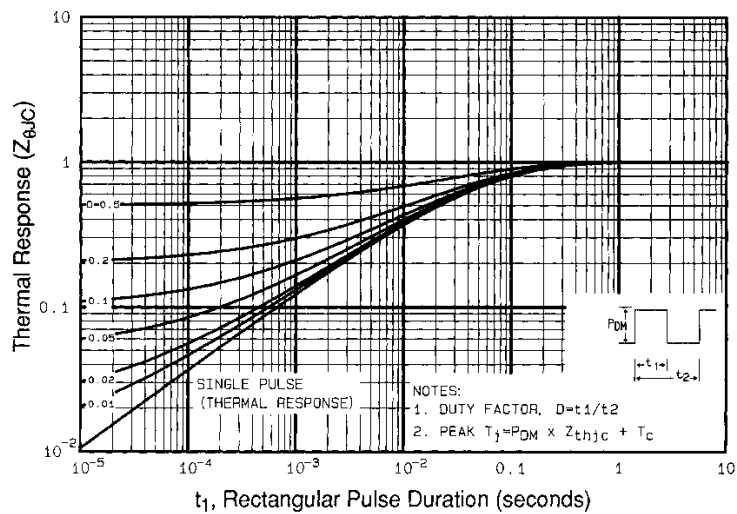

Fig 11. Maximum Effective Transient Thermal Impedance, Junction-to-Case
- ① Repetitive rating; pulse width limited by max. junction temperature. (See fig. 11)
- ② $V_{DD} = 50V$, starting $T_J = 25^\circ\text{C}$, $L = 27\text{mH}$, $R_G = 25\Omega$, $I_{AS} = 6.2A$. (See Figure 11)
- ③ $I_{SD} \leq 6.2A$, $di/dt \leq 80A/\mu s$, $V_{DD} \leq V_{(BR)DSS}$, $T_J \leq 150^\circ\text{C}$
- ④ Pulse width $\leq 300\mu s$; duty cycle $\leq 2\%$.
- ⑤ Uses IRFBC40 data and test conditions